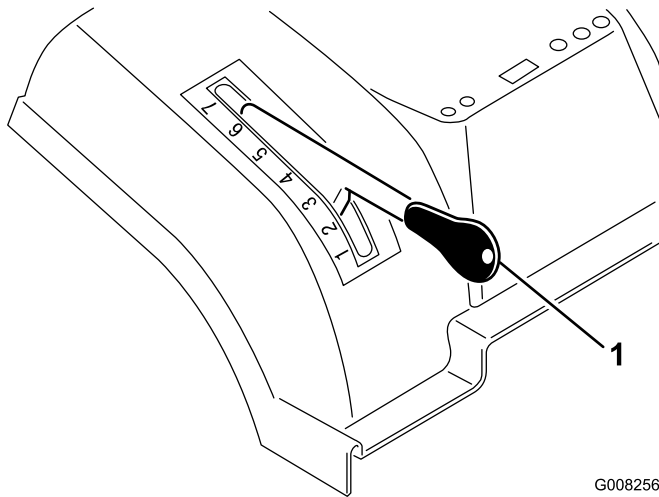

Figure 7
1. Push and hold in the button on the height-of-cut lever (Figure 7).